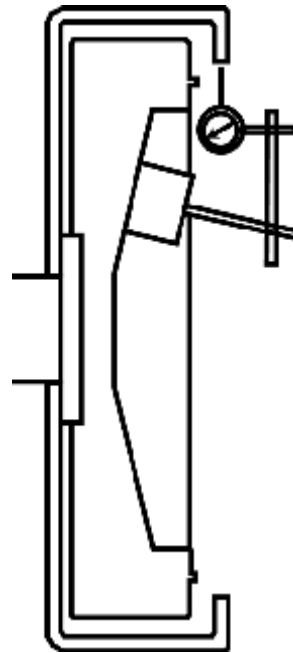

FIGURE 4
4.1.2 Check flywheel housing bore runout. (see Figure 4)